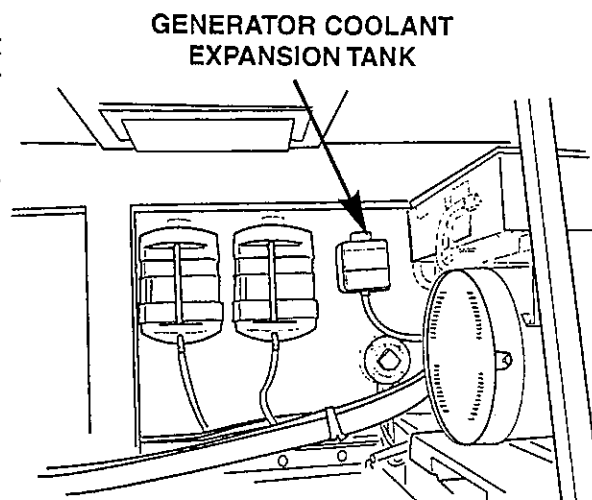

Figure 5-7 Checking Generator Coolant Level
11. See Figure 5-7. Check that the generator coolant level in the expansion tank is between the upper and lower marks.